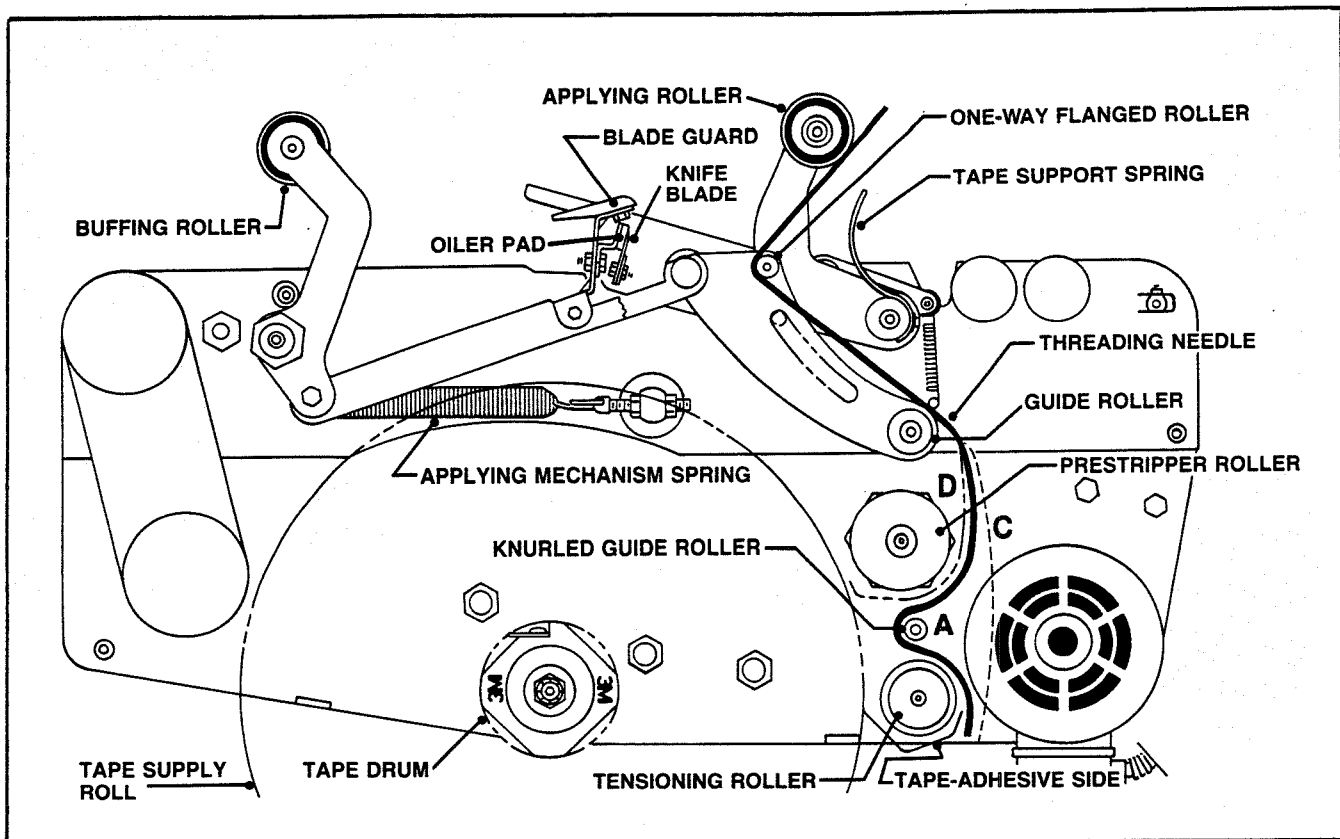

Figure 15A Tape Threading Diagram - Bottom Taping Head - Left Side View
1. With the temporary threading needle already in position, as shown in Figure 15A, follow the tape loading procedure from Figure 15C to complete the tape threading with this exception; thread tape around tensioning roller, knurled guide roller and prestripper roller in one of three paths depending on the application.
Thread lower end of needle around guide roller as shown in Figure 15A and through path A, C, or D.